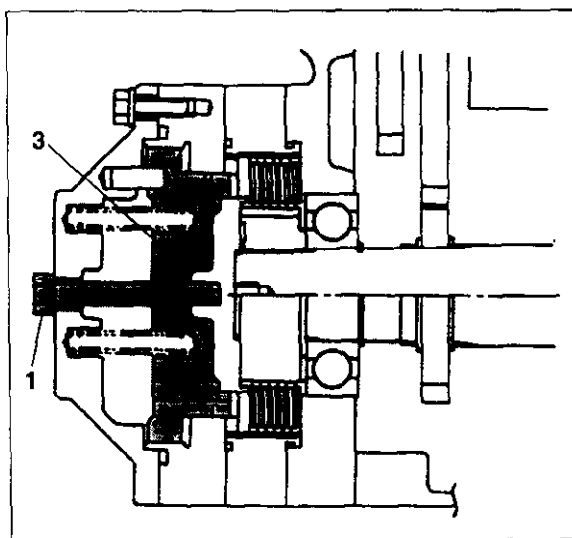

Fig. 3-10
1. Remove the manual release bolt and nut (1) from the parking brake cover on the transmission housing.
2. Remove the plug (2) from the middle of the cover.
3. Insert the bolt (1) into the plug hole and screw it
into the threaded hole at the centre of the brake piston (3), as shown in Fig. 3-10.
4. Screw the release bolt fully in to retract the brake piston (3) and release the brake disc.